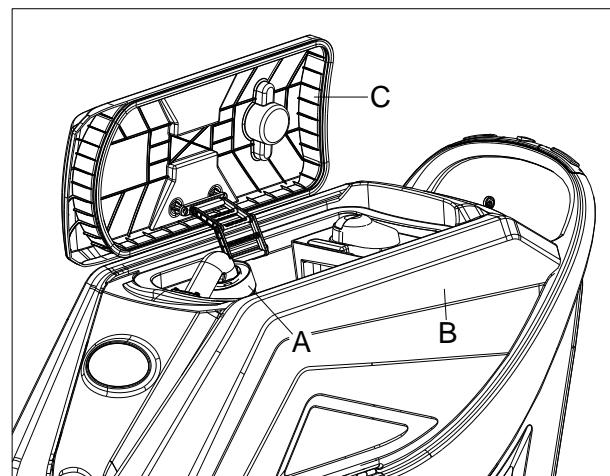
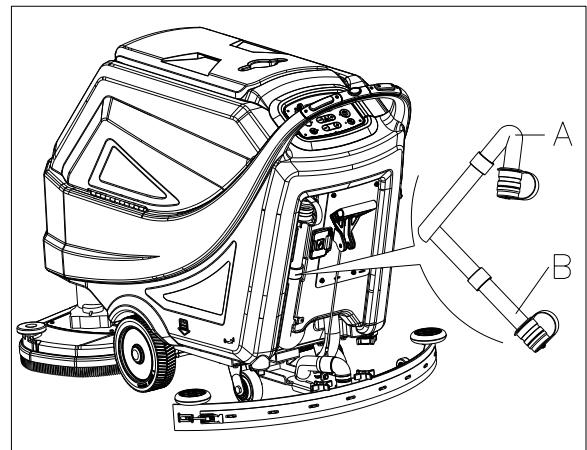

Figure 16
Figure 17
An automatic float shut-off system (A, Figure 16) blocks the vacuum system when the recovery water tank (B) is full. The vacuum system deactivation is signaled by a sudden increase in the vacuum system motor noise frequency, also the floor has not dried.
If the vacuum system turns off accidentally (for example, when the float is activated because of a sudden machine movement), to resume the operation: turn off the vacuum system by pressing the switch (49, Figure 3), then open the cover (C, Figure 16) and check that the float inside the grid (A) has gone down to the water level. Then close the cover (C) and turn on the vacuum system by pressing the switch (49, Figure 3).
When the recovery water tank (B, Figure 16) is full, empty it according to the following procedure.
5. Empty the recovery water tank with the hose (A, Figure 17). Then, rinse the tank (B, Figure 16) with clean water.
When draining the wastewater, the vacuum tube for waste must be folded (A, Figure 17) and lowered to a lower position (B, Figure 17), and then open the lid of the vacuum tube for waste to drain the water. Do not make the outlet of the vacuum tube for waste face upward to drain the water vertically. This is to avoid wastewater spilling onto the operator.